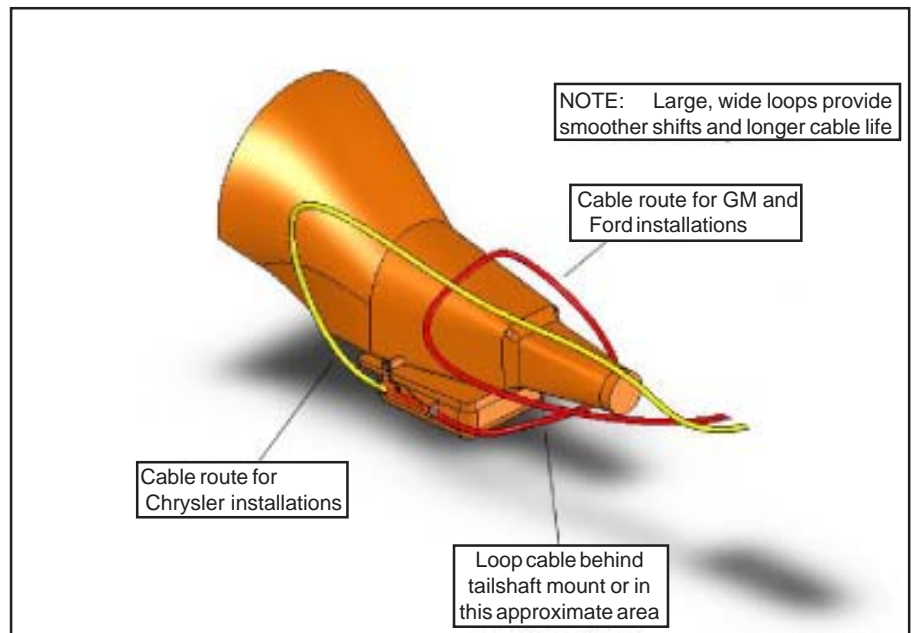

Figure 3
STEP 7. Install the shifter mechanism into the vehicle. Slide the shifter cable through the carpet and the hole in the floorboard. Bolt the shifter down using four 1/4" hex bolts and nuts. If required use 1/4" washers as shims between the shifter mechanism and the floor to level the shifter. Do not bend the shifter mounting tabs. **ROUTE THE CABLE AS SHOWN IN FIGURE 3, AVOID SHARP BENDS WHICH WILL KINK AND DAMAGE THE CABLE.** Use cable clamps or tie wraps to secure the cable housing to the chassis to avoid contact with hot engine or exhaust system. Seal the cable hole shut to avoid the entry of exhaust fumes or water. For General Motors vehicles go to **Step 8**, for Ford vehicles go to **Step 13**, for Chrysler vehicles go to **Step 19**, for aluminum Powerglide equipped vehicles go to **Step 25**.
STEP 10. Route the shifter cable according to **Figure 3**. Avoid kinks and sharp bends and route the cable away from hot engine or exhaust parts.
STEP 16. Route the shifter cable according to Figure 3. Avoid kinks and sharp bends and route the cable away from hot engine or exhaust parts.
STEP 21. Route the shifter cable according to **Figure 3**. Avoid kinks and sharp bends and route the cable away from hot engine or exhaust parts.
STEP 34. Route the shifter cable according to Figure 3. Avoid kinks and sharp bends and route the cable away from hot engine or exhaust parts.